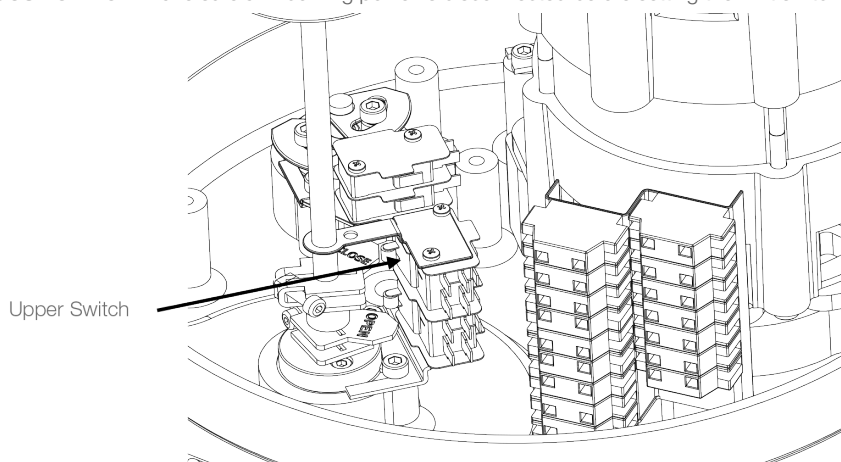

Figure 1: Close Cam Setting
- ☐ Rotate the CLOSE cam towards CW limit switch level until the switch 'clicks' (see Figure 1)